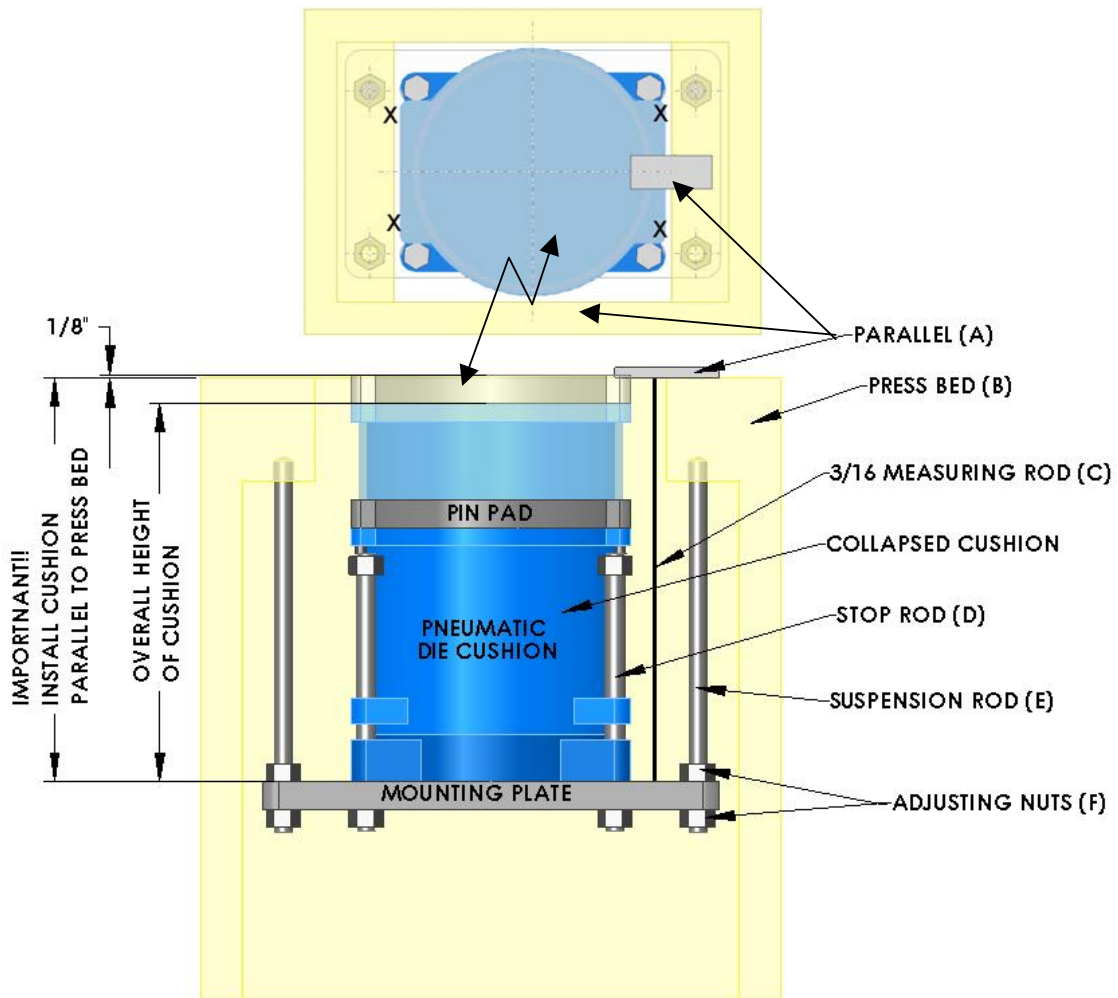

Fig. 10 Press bed Mounted Model C cushion.
(1) Remove the bolster plate and check both surfaces carefully to make sure they are flat and parallel. **THIS IS IMPORTANT!** If surfaces are bowed and not parallel, have them machined so that the pin pressure pad of the cushion will have an accurate surface to stop against.
(2) Screw the ends of the suspension rods, "E", (See Fig. 10) with the short length of thread into the drilled and tapped holes in the press bed, which have been provided for mounting the die cushion. Make sure these rods are pulled up as far as they will go into the tapped holes. If the cushion is to be suspended from mounting bosses that are not tapped, the mounting rods are provided with nuts on both top and bottom of the bosses.
(3) With the use of skids or timbers, slide the cushion unit into the approximate location relative to the press bed opening. (**NOTE:** If the distance between the mounting rods at the front of the press bed is not enough to allow the cushion to pass between them, it is advisable to leave them out until after the cushion has been placed under the press bed opening.)
(4) Run on the upper adjusting nuts, "H", as far as they will go. Raise the cushion unit so that the rods pass through the holes in the mounting plate or mounting channels and run on the lower adjusting nuts, "H".
(5) Prepare a measuring rod, "C" from 3/16" round steel for adjusting the height and alignment of the cushion unit. The over-all length of this rod should be equal to the overall height of the cushion when expanded, plus the thickness of the pin pad minus 1/8". **The 1/8" is allowed to make sure that the pin pressure pad comes to rest against the bottom of the bolster plate.**
(6) With a large parallel, "A", laid on top of the press bed, (See Fig. 10) line up the supporting structure at the four points marked, "X", by using the measuring rod, "C". The adjustment and alignment of the mounting plate at these four points must be held to a maximum tolerance of 1/64" avoid a tilting action. After this adjustment is obtained, lock the upper adjusting nuts on the mounting plate, which will secure the cushion unit in correct parallel alignment and relative height in connection with the top of the press.